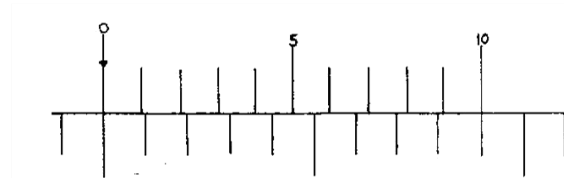

Figure 1a
- (a) 10 vernier scale divisions are equal in length to 9 main scale divisions as in Fig 1a (1 main scale division = 1 mm).